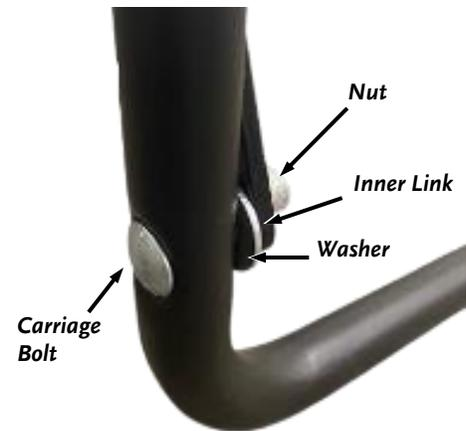

Figure 23
3. Secure the links with hardware found in the Product Package (Figure 3) by inserting two carriage bolts (Bolt, C-Head, 5/16-18 X 1.75) through the tube, followed by two washers (Washer-Flat 5/16 USS), the scissor links and then two lock nuts (Nut-Lock Nylon 5/16-18) as shown in (Figure 23).